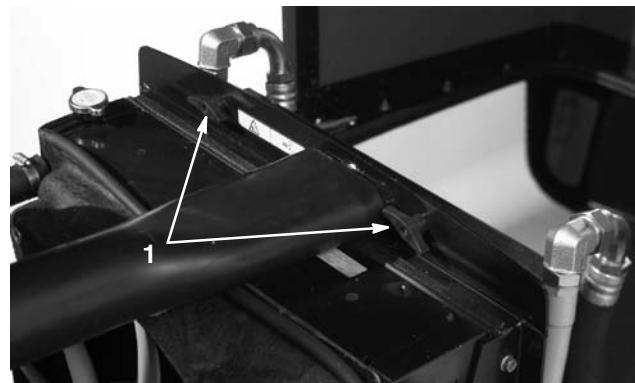

Figure 50
2. Remove the knobs (Fig. 50) securing the oil cooler to the frame.